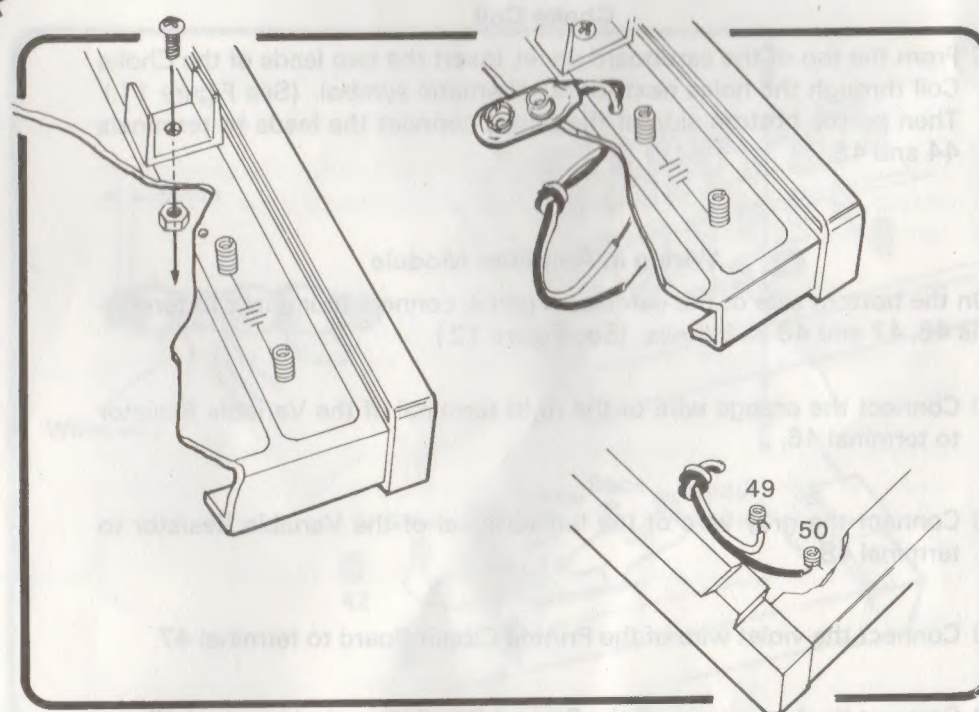

FIGURE 13
- ☐ On the top side of the panel, position the Battery Holder over the proper hole. Then insert the long Phillips-head screw and secure the holder with a nut. Use a screwdriver to tighten the screw. (See Figure 13.)
- ☐ From the top side of the panel, insert the wires of the Battery Snap through the hole next to terminal 49. Then turn the panel over; tie a knot in the wire (See Figure 13.). The knob will keep the wire from coming out of the hole.